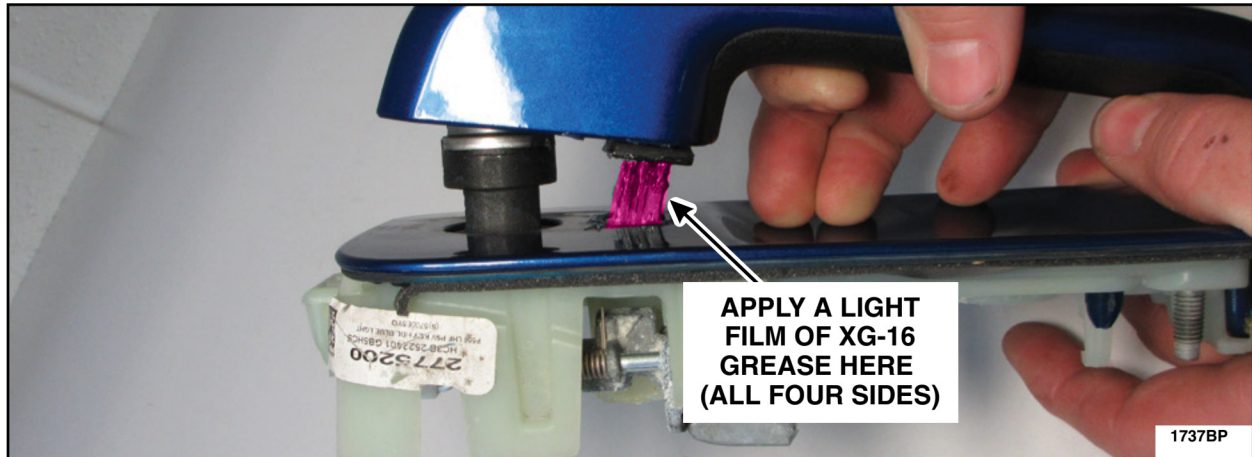

FIGURE 25
37. Using a clean shop towel and isopropyl alcohol, clean the handle plunger then, using a brush, apply a light film of Motorcraft® XG-16 low temperature grease to all four sides of the exterior door handle plunger and to the mechanisms in the areas shown in Figures 25 and 26.